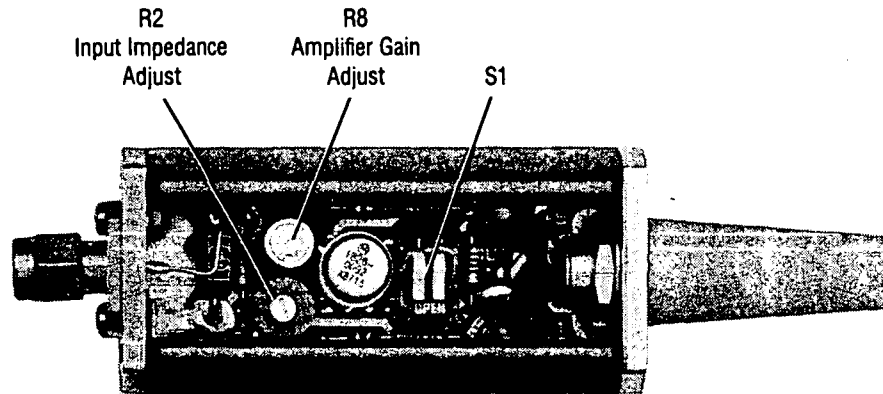

Figure 3. Adjustment Potentiometers and Switch Locations
1. Connect the HP 11664C to the HP 8757A without a detector connected to it. Refer to Figure 3. Turn the INPUT IMPEDANCE potentiometer (R2) fully clockwise. Turn the HP 8757A power on and measure the voltage on the input connector of the HP 11664 (center pin to ground). Using this voltage, refer to Table 3 to determine how switches S1 and S2 are set.